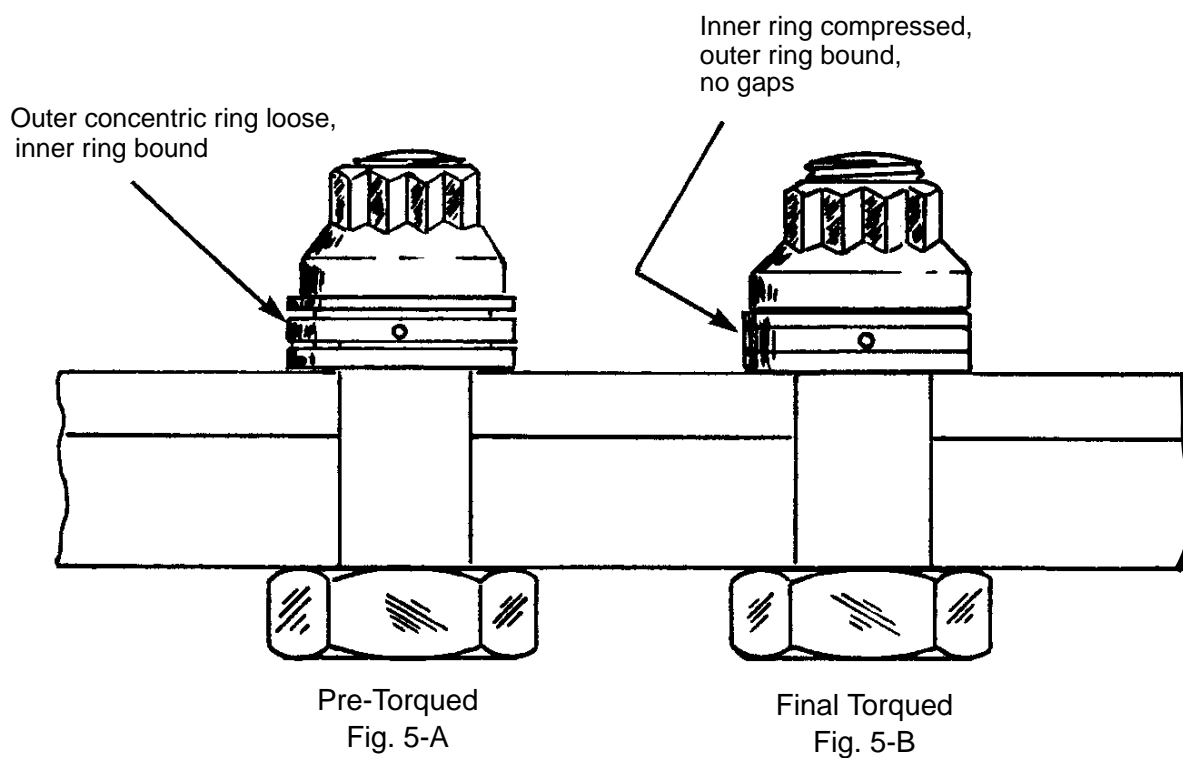

Figure 5 - Torquing PLI Washer/Bolt Assemblies
- Step 1. Pre-torque by tightening the bolt until the washers are felt to bottom or bind against the inner preload indicating ring, with the outer ring remaining loose (see Figure 5-A).
- Step 2. Insert a TS.759.14.12 torque check tool in one of the outer ring test holes and move slightly back and forth during final torquing until the outer ring definitely binds between the washers (see Figure 5-B). At this point the required preload has been reached and cease torquing immediately. **Do not over torque.** If necessary, in place of a TS.759.14.12 check tool it is acceptable to use an Allen key hex wrench or twist drill which is a close fit to the size of the outer ring test hole (e.g., if a TS.759.14.12 check tool is not available).